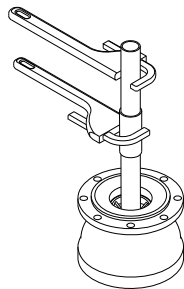

Fig. 9 Making a shaft joint
8. Check the tightness of the mating by using two pipe wrenches as shown in fig. 9. No noticeable movement should occur when the pipe wrenches are used to check the tightness of the hand-mating. If movement is noticed, it would be an indication that foreign material has gotten between the faces of the two shafts and, by using the wrenches, you are causing movement by compressing the foreign material. Separate the shafts, remove the foreign material and correct any scoring on the shaft faces.